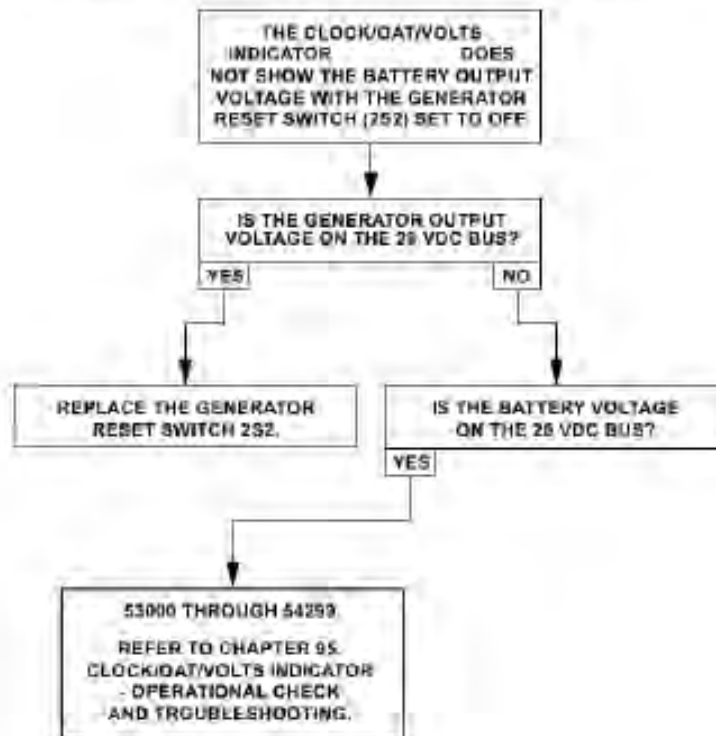

Figure 96-39: Generator System - Trouble No. 5
- If the clock/OAT/volts indicator does not show the battery voltage, refer to Trouble No. 5 (Figure 96-39).